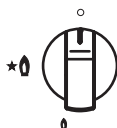

Fig.11
1. To light the hob, push down the appropriate knob and turn anti-clockwise to the large flame symbol (Fig.11).